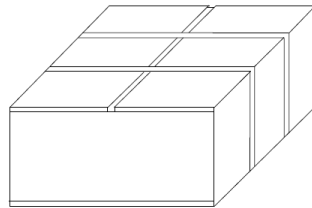

Figure 2-5 Place on platform smoothly
- 1) The packing case must be placed on the platform smoothly, as is shown in Figure 2-5.